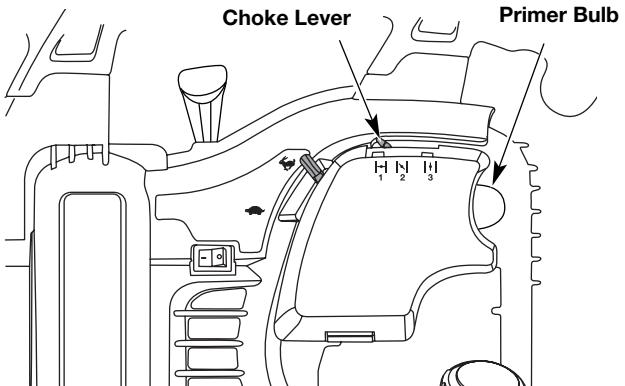

Fig. 13
- 3. Fully press and release the primer bulb 10 times, slowly. Some amount of fuel should be visible in the primer bulb and fuel lines (Fig. 13). If you can't see fuel in the bulb, press and release the bulb as many times as it takes before you can see fuel in it.
- 4. Place the choke lever in **Position 1** (Fig. 13).
- 6. Place the choke lever in **Position 2** (Fig. 13).
- 9. Place the choke lever in **Position 3** (Fig. 13). The unit is ready for use.